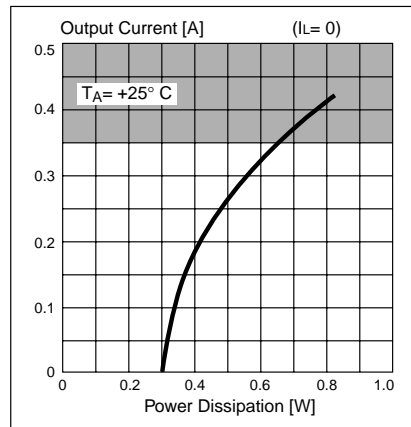

Figure 23. Typical P_{DP} vs. I_p . Power dissipation without second-level supply (includes 2 active outputs = FULL STEP)
- Figures 23 and 24 give the relationship between motor currents and their dissipations. The sum of these power dissipations must never exceed the previously-established value, or life expectancy will be drastically shortened.
- When no Bi-level or voltage doubling is utilized, the maximum motor current can be found directly in figure 23 .